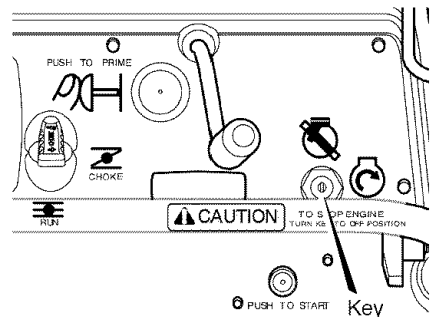
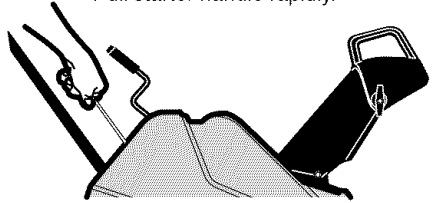

Figure 13
Figure 14
5. (**Electric Start**) Turn the **key** to the **START** position (see Figure 13). To prolong the life of the starter, do not crank for more than 5 seconds at a time. Wait one minute between starts to allow the starter motor to cool.
6. **(Recoil Start)** Turn the **key** to the ON position (see Figure 13). Slowly pull the **recoil starter handle** until resistance is felt and then pull rapidly to start the engine (see Figure 14). Do not allow the **recoil starter handle** to snap back. Slowly return the **recoil starter handle**.